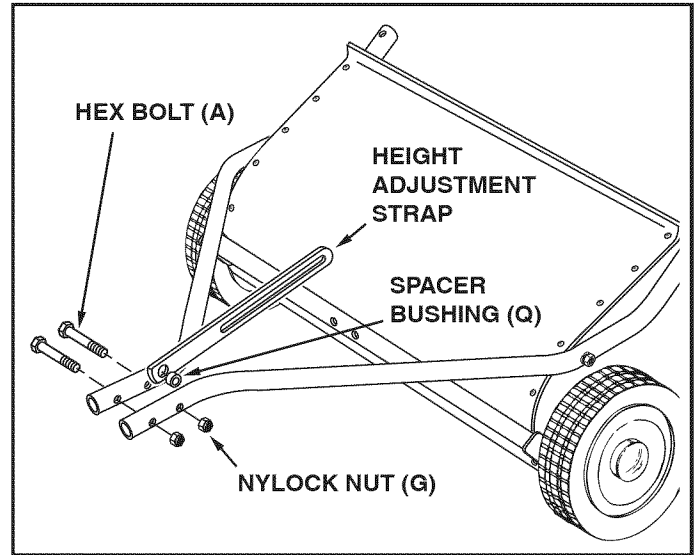

FIGURE 2
- Place the spacer bushing (K) into the hole in the height adjustment strap. Place the strap and bushing between the hitch tubes, aligning them with the rear hole. Fasten the hitch tubes together, with the strap and bushing between them, using two hex bolts (A) and nylock nuts (G). **Do not tighten yet.** See figure 2.